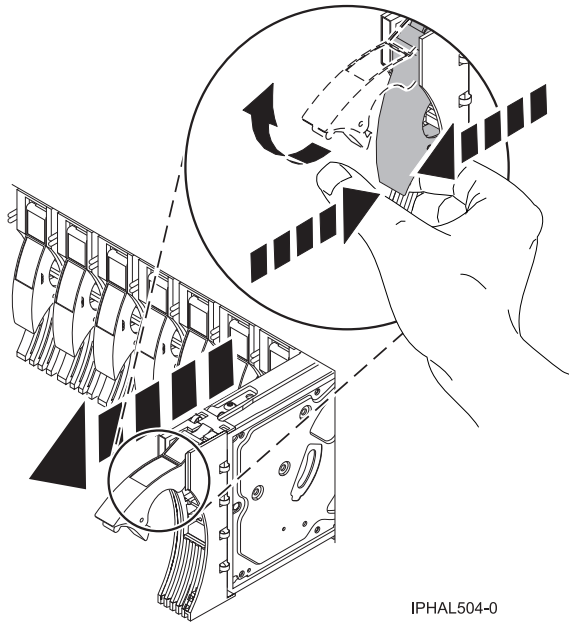

Figure 59. Removing a disk drive from a model or 7311-D20
9. Squeeze or lift the handle of the disk drive out toward you before you remove the disk drive, as shown in Figure 59 on page 81. If the handle is not all the way out, the disk drive cannot slide out of the system or expansion unit.